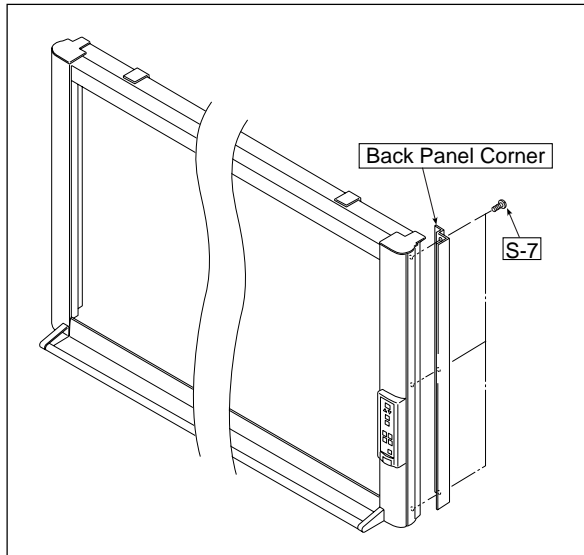

Fig. 1
### 1) Remove the Back Panel. (See Figs. 1 and 2.)
1. Remove the "S-7" screws shown in Fig. 1 and then remove the Back Panel Corner.